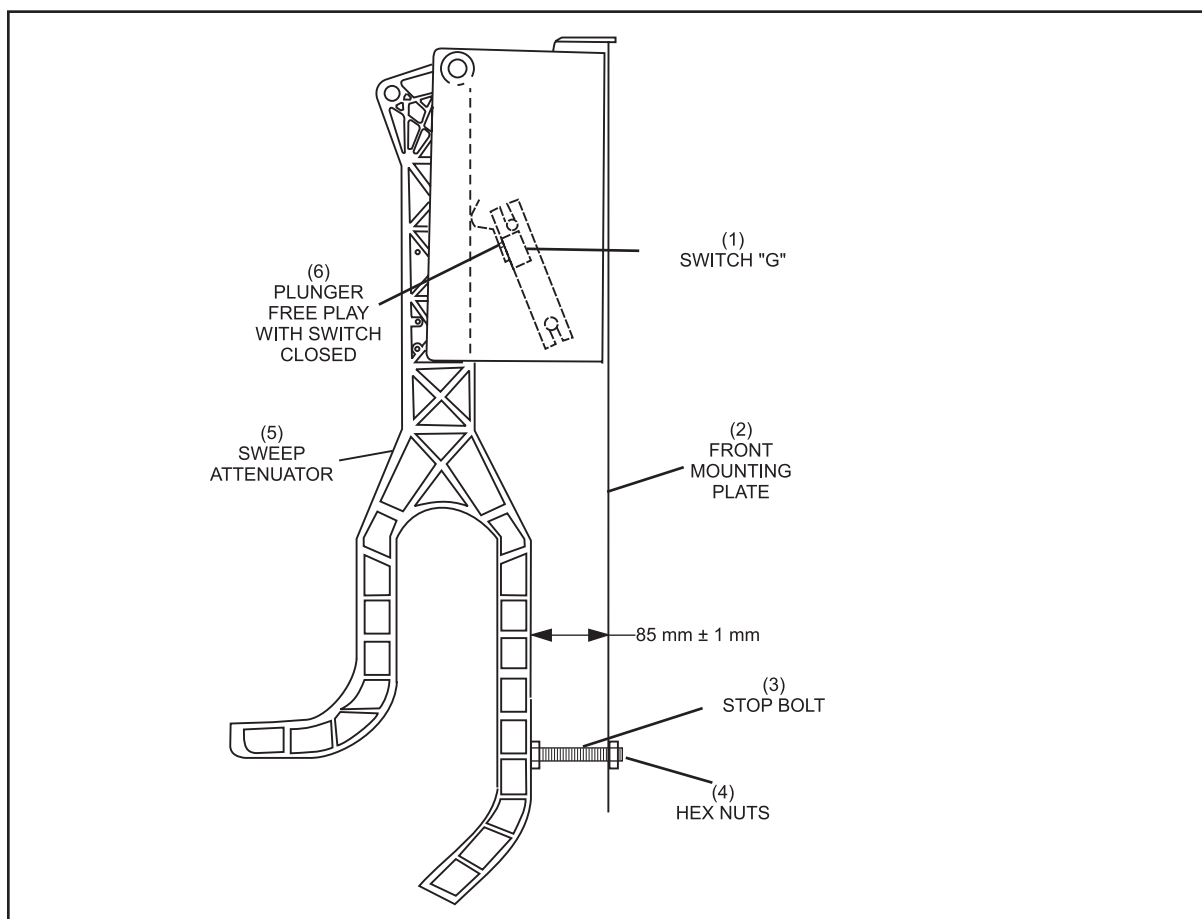

Figure 5-50. Sweep Attenuator/Switch "G" Adjustment.
2. Adjust the "G" switch with the attenuator down. The switch's plunger must have free play with the switch closed. Refer to *Figure 5-50*.